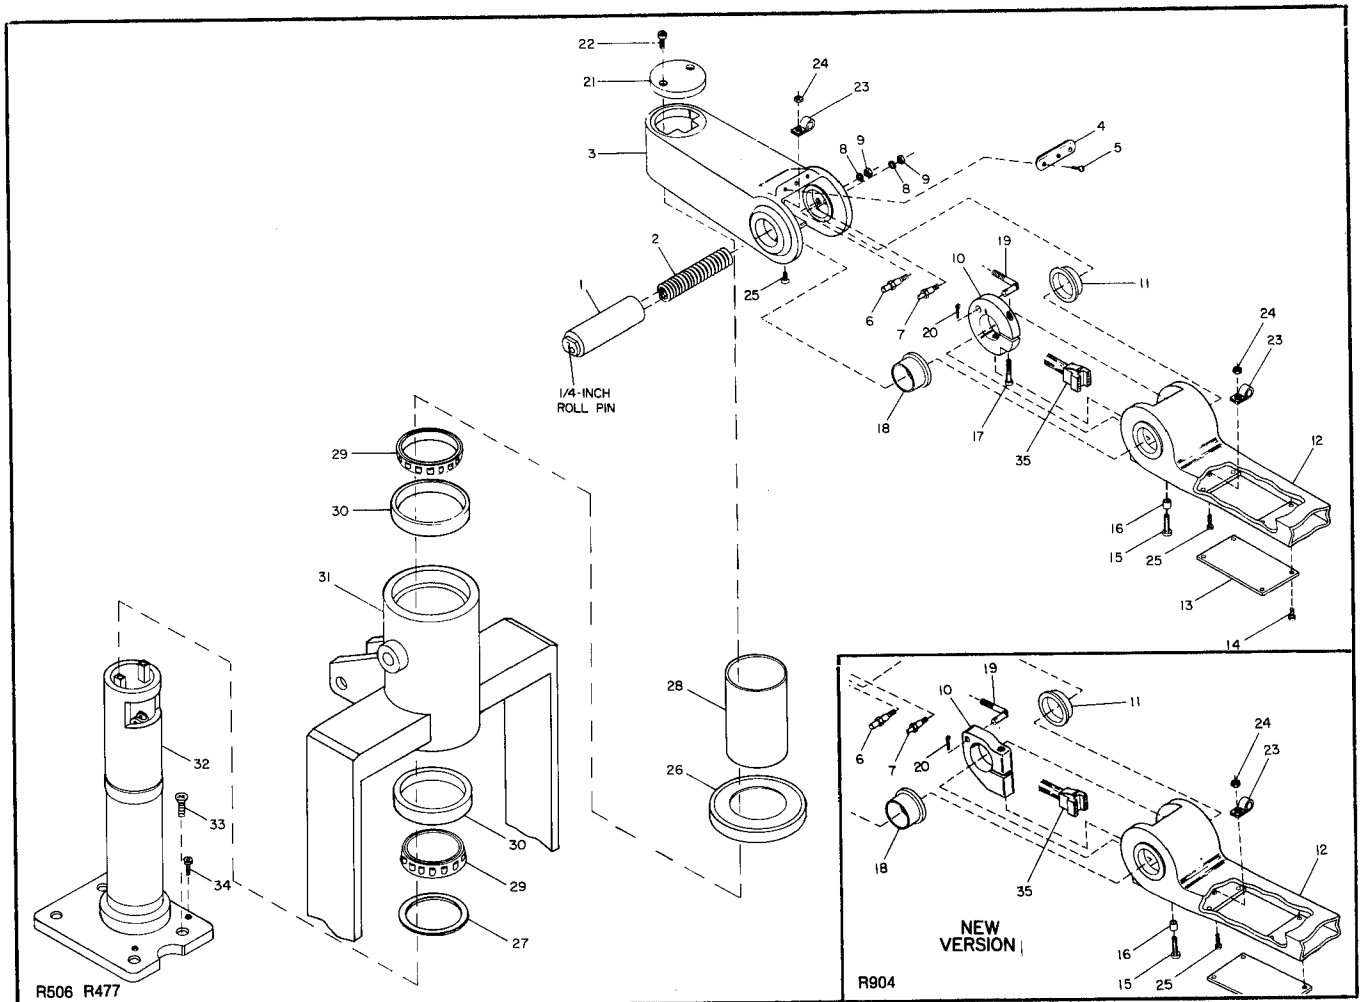

Figure 3-5. Pivot Tube and Steering Arm
1. Disconnect battery, remove steering arm access cover (13, figure 3-5) and disconnect electrical cable connectors.
1. Disconnect battery. Remove steering arm access cover (13, figure 3-5) and disconnect electrical cable connectors.
3-11. STEERING ARM (Figure 3-5).
The tension on the steering arm return spring should allow the steering arm to return gently to the upright position. Excessive Tension on the steering arm return spring will cause the steering arm to snap up and may cause damage to the electrical cable, brake linkage, or the spring itself. If the steering arm does not return fully, check for binding in the brake linkage or wiring harness before making any adjustments. If they do not bind, refer to figure 3-5 and proceed as follows to adjust the steering arm return spring tension.
11. Align radial position of spring tube assembly in accordance with line drawn in step 3. Slowly rotate spring tube assembly a few degrees each way until the steering arm return spring snaps into place over spring pin (6, figure 3-5); then tighten screw (15) or (17).